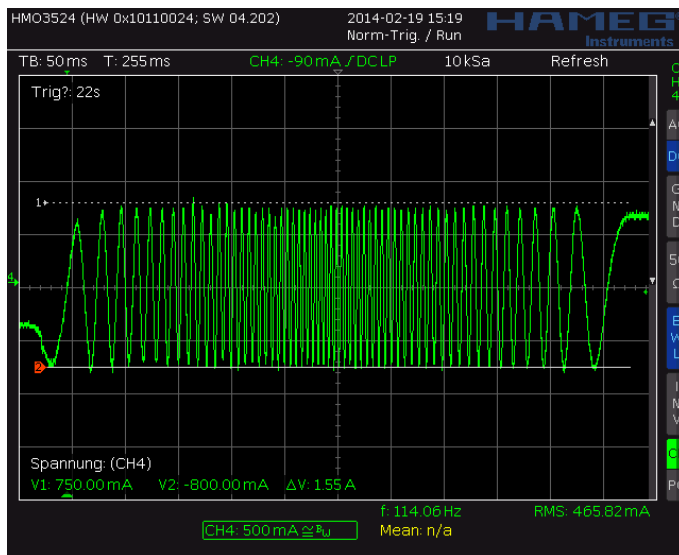
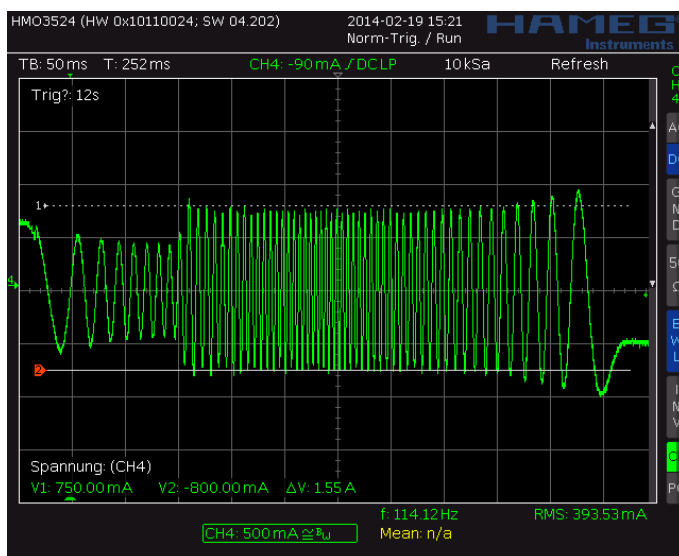
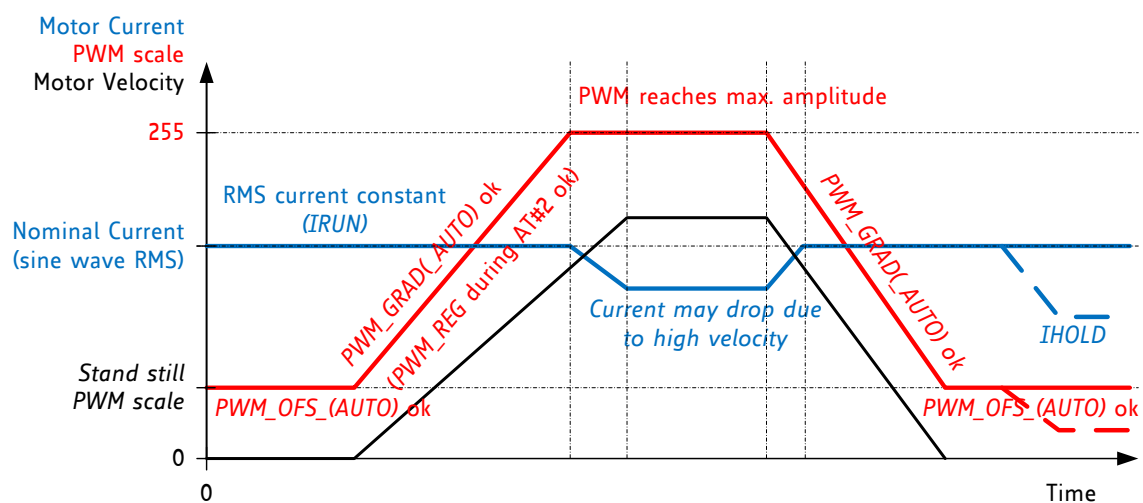

Figure 7.3 Scope shot: good setting for PWM\_REG
Figure 7.4 Scope shot: too small setting for PWM\_REG during AT#2
Figure 7.5 Successfully determined PWM\_GRAD(AUTO) and PWM\_OFS(AUTO)
In stealthChop voltage PWM mode, the autoscoping function (*pwm\_autoscale* = 1, *pwm\_auto\_grad* = 1) regulates the motor current to the desired current setting. Automatic scaling is used as part of the automatic tuning process (AT), and for subsequent tracking of changes within the motor parameters. The driver measures the motor current during the chopper on time and uses a proportional regulator to regulate *PWM\_SCALE\_AUTO* in order match the motor current to the target current. *PWM\_REG* is the proportionality coefficient for this regulator. Basically, the proportionality coefficient should be as small as possible in order to get a stable and soft regulation behavior, but it must be large enough to allow the driver to quickly react to changes caused by variation of the motor target current (e.g. change of *VREF*). During initial tuning step AT#2, *PWM\_REG* also compensates for the change of motor velocity. Therefore, a high acceleration during AT#2 will require a higher setting of *PWM\_REG*. With careful selection of homing velocity and acceleration, a minimum setting of the regulation gradient often is sufficient (*PWM\_REG*=1). *PWM\_REG* setting should be optimized for the fastest required acceleration and deceleration ramp (compare Figure 7.3 and Figure 7.4). The quality of the setting *PWM\_REG* in phase AT#2 and the finished automatic tuning procedure (or non-automatic settings for *PWM\_OFS* and *PWM\_GRAD*) can be examined when monitoring motor current during an acceleration phase Figure 7.5.